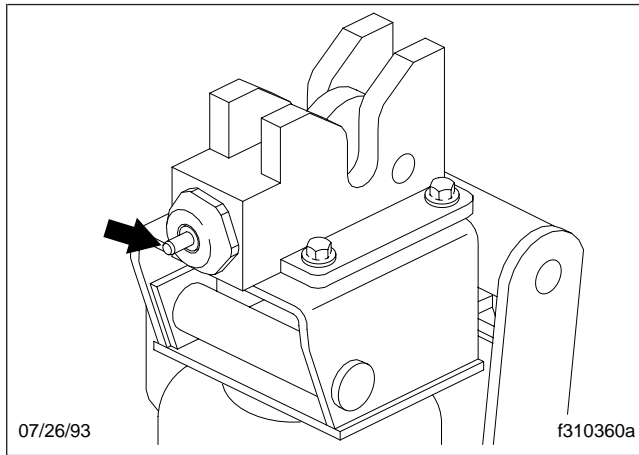

Fig. 4, Cab Latch Indicator Pin
IMPORTANT: Check the indicator pin on each cab latch. The latches have disengaged if the pins are out. See Fig. 4.
- Check the indicator pin on each cab latch. See Fig. 4. The latches are locked when the pins have moved back into the piston and cylinder spring assembly.